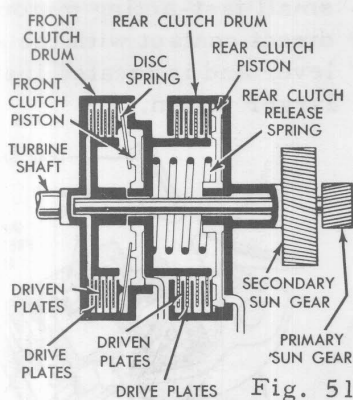

Fig. 51
- ⊗ The front clutch drive plates are connected to the turbine shaft through the front clutch drum (Fig. 51). The driven plates are connected to the primary sun gear shaft.
- ⊗ The primary sun gear is locked to and driven by the input shaft when the clutch is applied. The piston is returned to the release position by the disc spring when oil pressure is not applied (Fig. 51). A check valve is located in the front clutch piston to allow the remaining oil to exhaust when the piston is in the release position.
- ⊗ The rear clutch is applied by oil pressure against the clutch piston (Fig. 51). Movement of the piston compresses the release spring and locks the drive and driven clutch plates together. The rear clutch drive plates are splined to the front clutch drum. The driven plates are splined to the rear clutch drum and secondary sun gear. When the rear clutch is applied in Reverse and third speeds, the secondary sun gear is driven. When hydraulic pressure is released, the piston is moved to the release position by the release spring.